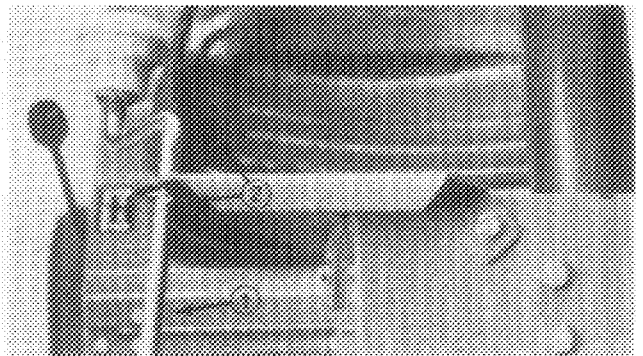

Figure 7
1. Install a cotter pin into top hole in chute crank shaft (Fig. 7).
2. Slide a washer onto crank shaft and insert crank shaft thru mounting hole in top bracket (Fig. 7).
- Slide another washer onto crank shaft and secure with cotter pin (Fig. 7).